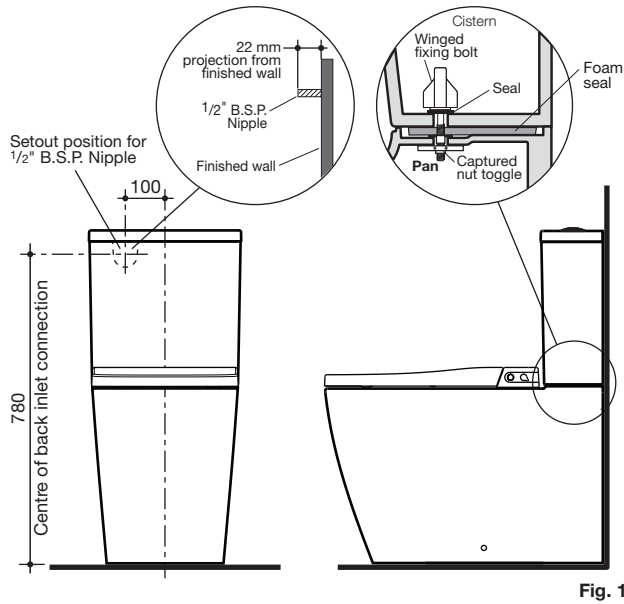

Fig. 1
- 3- Fit the seals into the winged fixing bolts, as detailed in **Fig. 1**. Twist and remove main top section of outlet valve to access bottom of cistern.
- 4- Insert the winged fixing bolts through the cistern fixing holes into the threaded fixing holes located in the pan. Gradually tighten the left and right hand nuts by hand to firmly secure the cistern to pan, as detailed in **Fig. 1**.